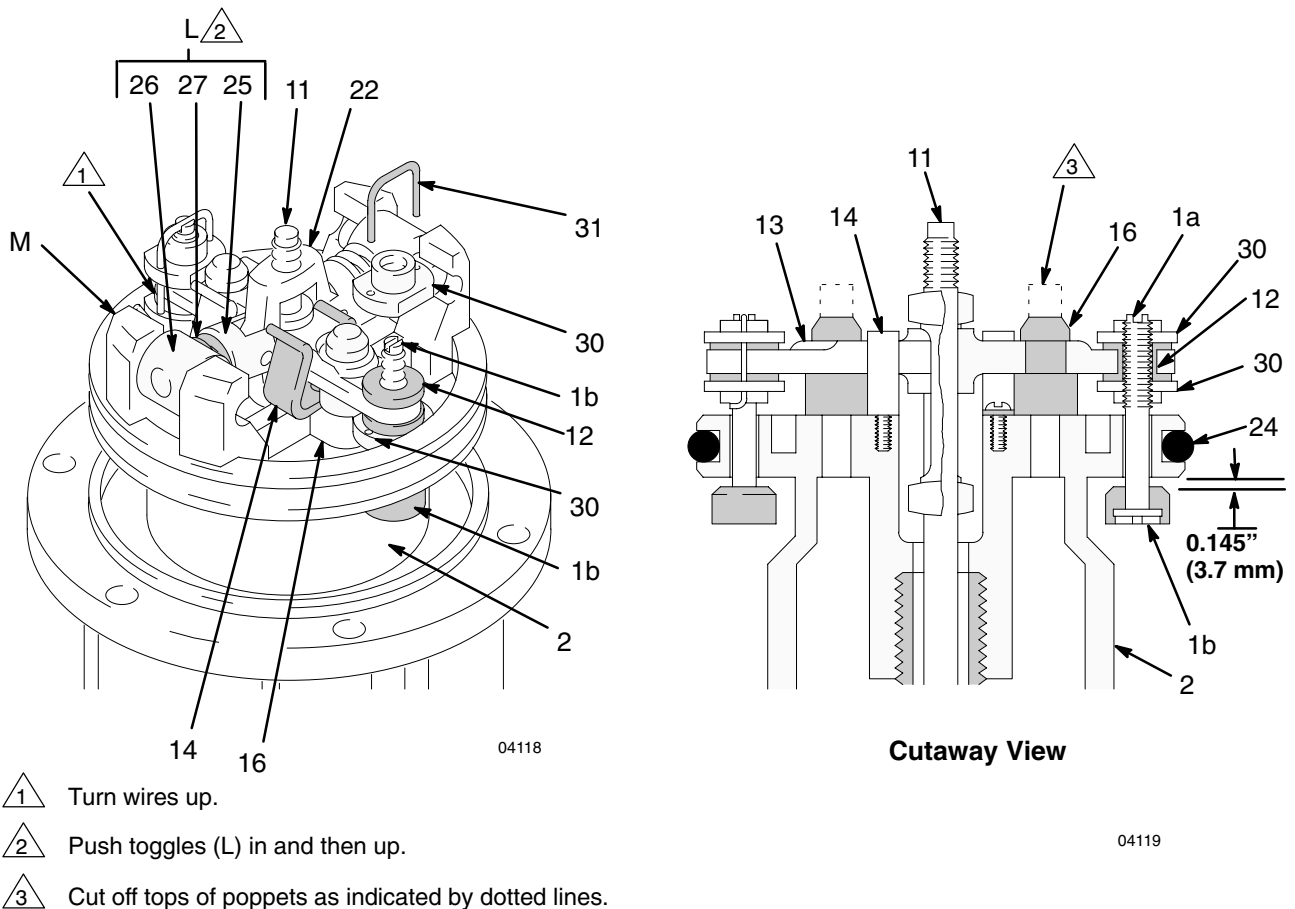

Fig. 5
To reduce the risk of pinching or amputating your fingers, **always** keep fingers clear of the toggle assemblies (L). See Fig. 5.
9. Use a screwdriver to push down on the trip rod yoke (22), and snap the toggles down. Remove the lockwires (31) from the adjusting nuts (30) of the transfer valves. Screw the top nuts off. Screw the stems (1a) out of the grommets (12) and bottom nuts. Take the valve poppets (1b) off the stems and squeeze them firmly to check for cracks. See Fig. 5.
10. Grip the toggle rockers (26) with a pliers. Compress the springs (27), and swing the toggle assembly (L) up and away from the piston lugs (M), and remove the parts. Check to see that the valve actuator (13) is supported by the spring clips (14), but slides easily into them. See Fig. 5.
11. Remove the trip rod yoke (22), actuator (13), and trip rod (11). Check the exhaust valve poppets (16) for cracks.
6. Pull the exhaust valve poppets (16) into the valve actuator (13), and clip off the top part shown with dotted lines in Fig. 5.
7. Install the transfer valve grommets (12), and reassemble the valve mechanism. Before you install the lockwires (31) in the adjusting nuts (30), use the special gauge, 171818, to adjust the transfer valve so there is 0.145 in. (3.7 mm) clearance between the poppets (1b) and the seat when it is open. See Fig. 5. Snap the toggles (25) to the up position.
8. Reassemble the air motor, and assemble to the displacement pump. Torque the extension tube (64) to the base (5) at 45 to 55 ft-lb (61 to 75 N-m). Before you install the air motor plate, tighten the throat packing nut (38) snugly; do not overtighten it.